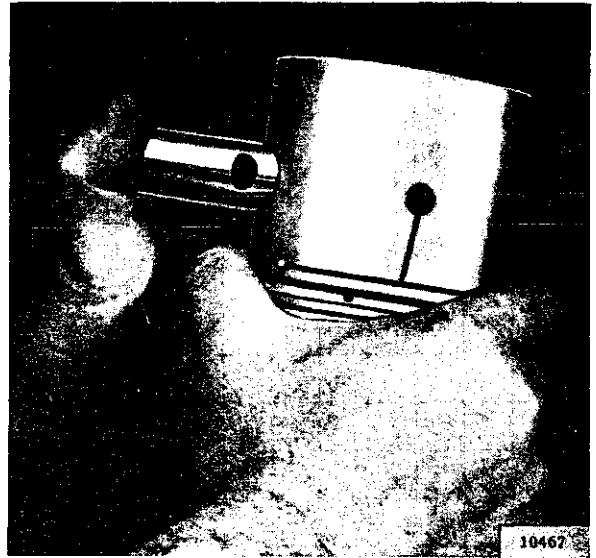

FIG. D-9—PISTON PIN FITTING
c. Check the piston pin fit. The piston pins are fitted with a clearance of .0001" to .0003" [0,0025 a 0,0076 mm.] which approximates a light thumb push fit at room temperature. See Fig. D-9. The piston pins are anchored in the rods with lock screws. Installation of oversize pins in this engine is not recommended as experience has shown that should a pin be worn sufficiently to require replacement, the piston should also be replaced.